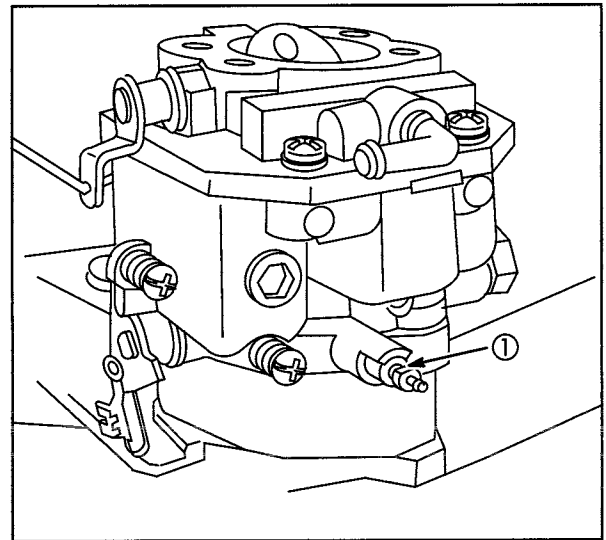

Fig. 7
1. Turn idle mixture screw (1), Fig. 7, CLOCKWISE until it just seats. DO NOT FORCE.